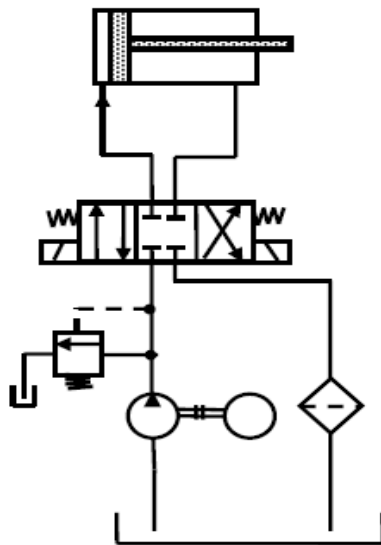

Fig.2.3 - Return line filter
- **Return line filters (low-pressure filters):** These filters filter the oil returning from the pressure-relief valve or the system, that is, the actuator to the tank (Fig. 2.3). They are generally placed just before the tank. They may have a relatively high-pressure drop and hence can be a fine mesh. These filters have to withstand low pressure only and also protect the tank and pump from contamination.